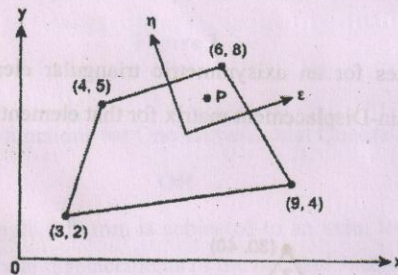

Figure 6
- (b) Evaluate the Cartesian coordinate of the point P which has local coordinates $\xi = 0.6$ and $\eta = 0.8$ as shown in fig. 6. (16)